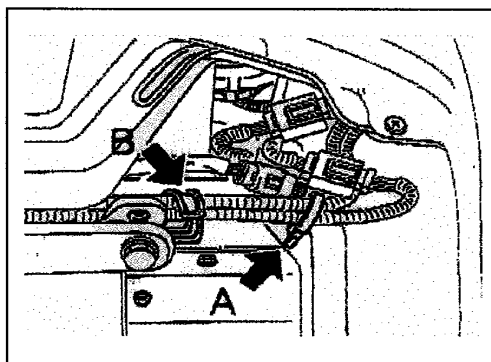

Figure 3
5. Arrange and tie chassis wiring, battery sub-wiring and ABS wiring harness to air-cond pipe with band-clip. (part A, figure 3)
6. Fasten the battery sub-wiring and ABS wiring with weld clip. (part B, Figure 3)